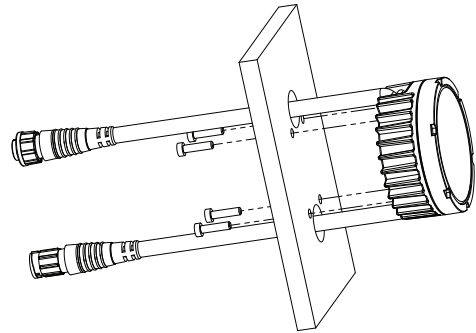

Figure 5: Installing directly on a surface
1. See Figure 5. Pre-drill the surface with six suitably positioned holes: two holes to accept the Exterior Dot-HP's cable tails, and four holes to accept M8 mounting screws.